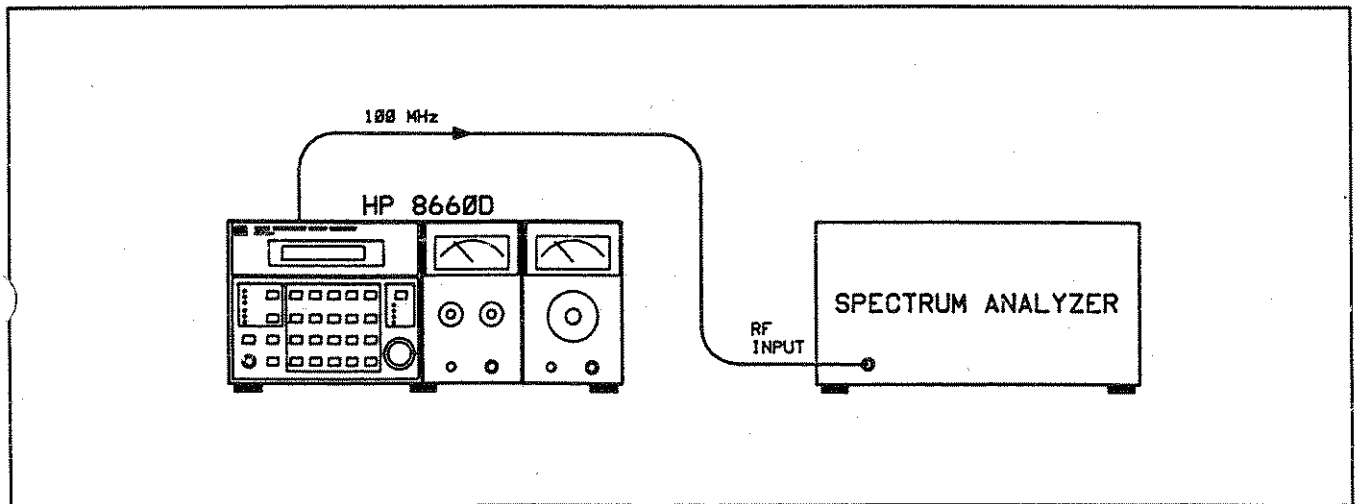

Figure 5-5. RF Level Checks Test Setup
- d. Connect the Spectrum Analyzer RF INPUT to the 100 MHz output of the A4A4 assembly and tune the Spectrum Analyzer CENTER FREQUENCY to 100 MHz. The 100 MHz signal should be $>+10$ dBm (see Figure 5-5 and 5-6).